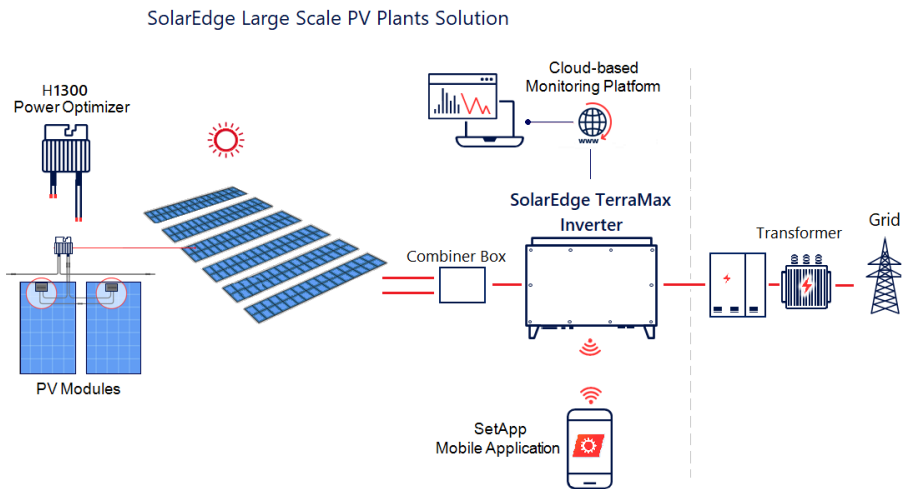

Figure 1: The SolarEdge Large Scale PV Plants Solution
This SolarEdge power harvesting solution is designed to maximize the power output from any type of solar Photovoltaic (PV) installation while reducing the average cost per Watt. *Figure 1* shows and the following sections describe the components of the SolarEdge power harvesting system. *Figure 1* shows SolarEdge Large Scale PV Plants Solution.